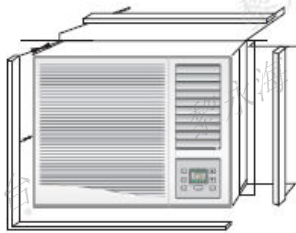
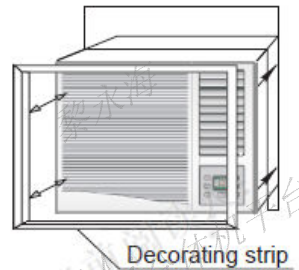

Fig.7
Fig.8
5. The seal foam pads are employed to prevent outside air from leaking into the room (Fig.7) and the decorating strip is presented for aesthetical appearance as Fig.8.